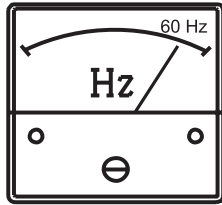

Figure 28. Frequency Meter
6. The **frequency meter** (Figure 28) will display the 60-cycle output frequency in **HERTZ**.